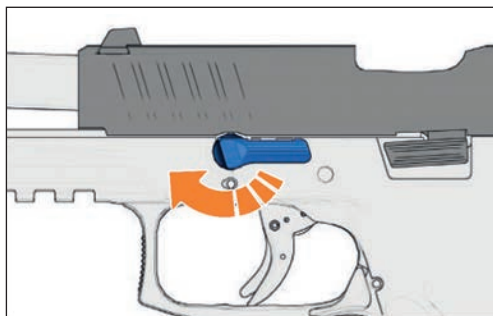

Figure 18 – Rotating the disassembly lever
2. With the slide still locked to the rear and the magazine removed, rotate disassembly lever, located on the left-hand side of the frame, downward until the lever is pointing to approximately the six o'clock position (see Figure 18).